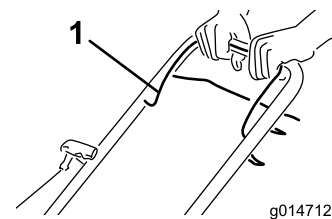

Figure 11
1. Hold the blade-control bar (Figure 11) against the handle.